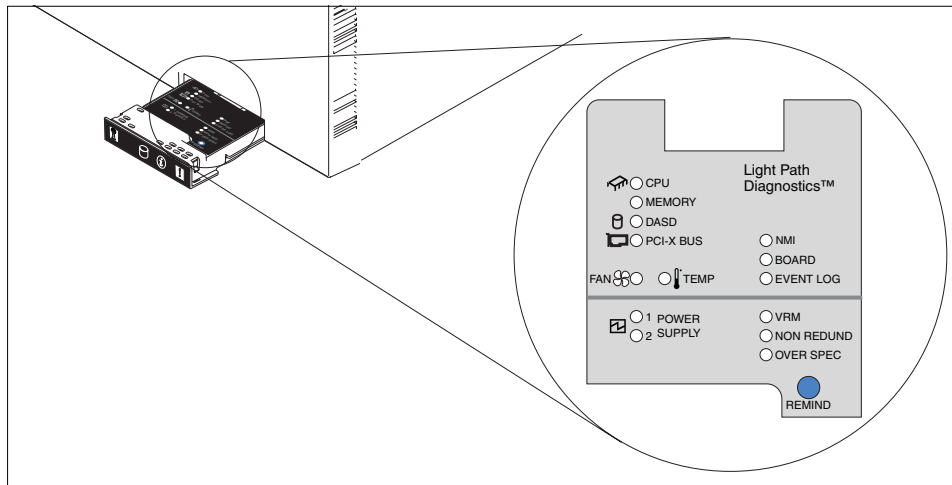

Figure 1-14 Light path diagnostics panel on the x450
To limit the need to slide the server out of the rack to diagnose problems, a light path diagnostics panel has been incorporated in the front of the x450, as shown in Figure 1-14. This panel can be ejected from the server to view all light path diagnostics-monitored server subsystems. In the event that maintenance is then required, the customer can slide the server out from the rack and, using the LEDs, find the failed or failing component.
As illustrated in Figure 1-14, light path diagnostics is able to monitor and report on the health of CPUs, main memory, hard disk drives, PCI-X and PCI slots, fans, power supplies, VRMs, and the internal system temperature.
2. Level 2 is the pop-out panel as shown in Figure 1-14.
The pop-out panel (Figure 1-14 on page 25) also has a remind button. This places the front panel system-error LED into remind mode, which means it flashes briefly every 2 seconds. By pressing the button, you acknowledge the failure but indicate that you will not take immediate action. If a new failure occurs, the system-error LED will turn on again and no longer blink. The system-error LED remains in the remind mode until one of the following situations occurs: